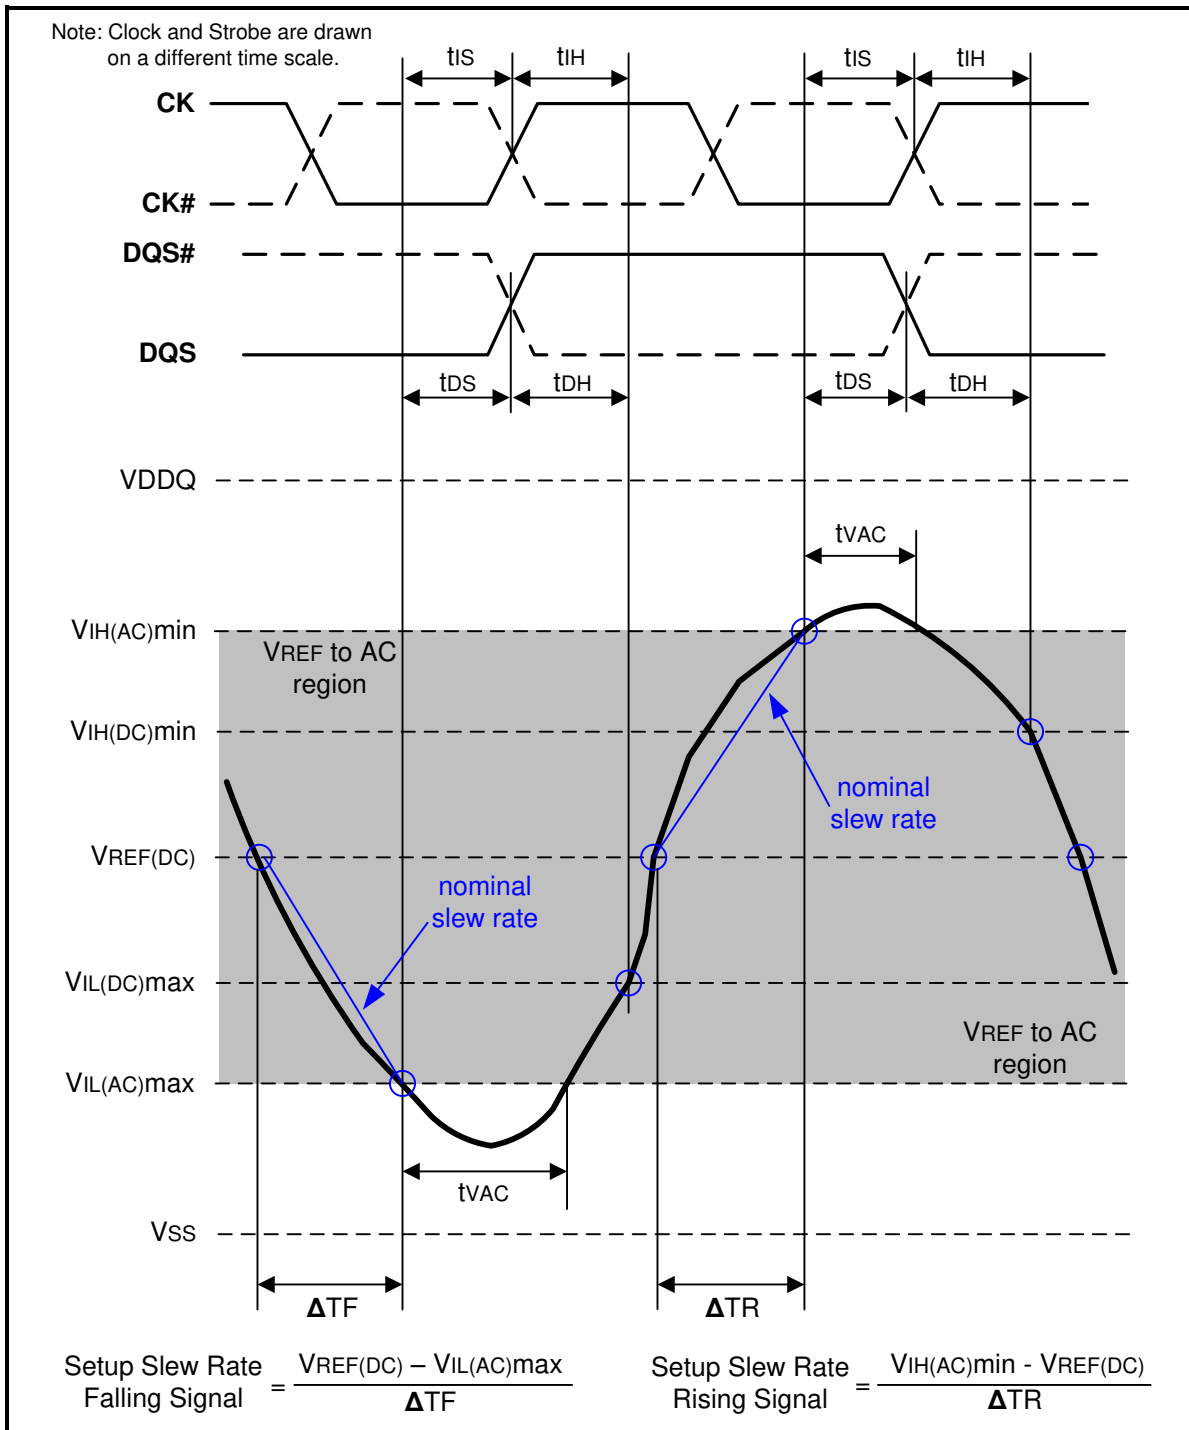
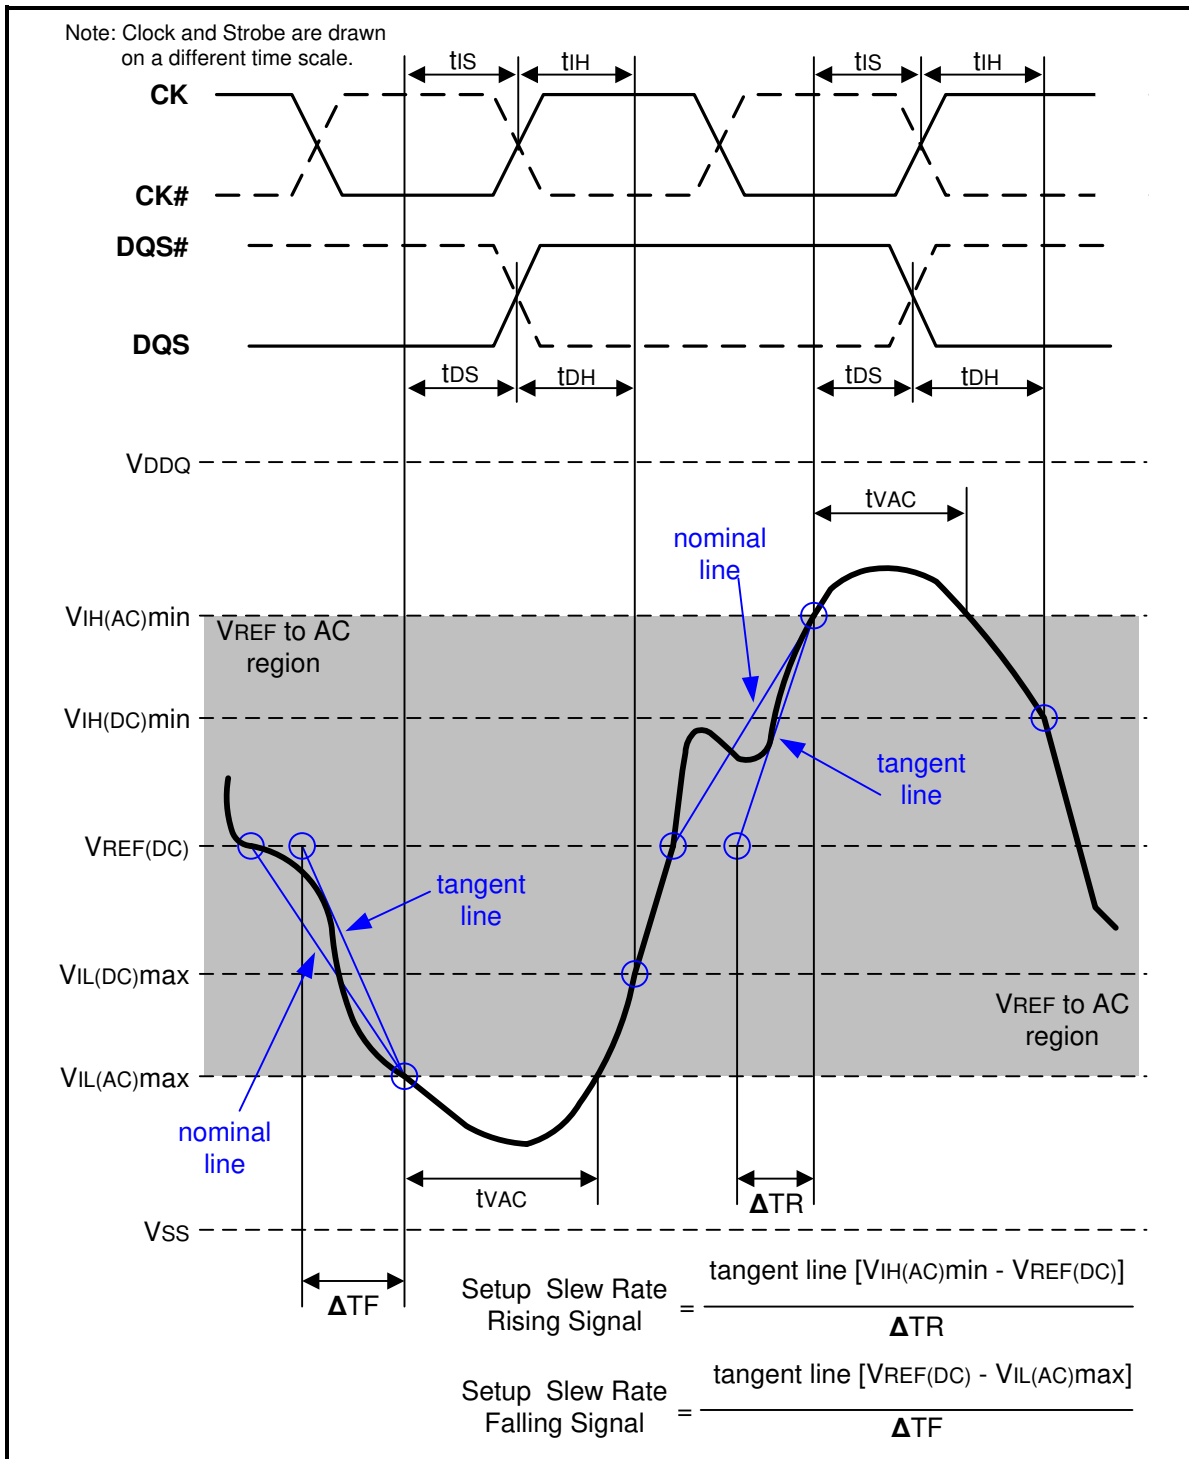

Figure 107 – Illustration of nominal slew rate and tvac for setup time tds (for DQ with respect to strobe) and tis (for ADD/CMD with respect to clock)
Figure 109 – Illustration of tangent line for setup time tds (for DQ with respect to strobe) and tis (for ADD/CMD with respect to clock)
Setup ( $t_{IS}$ ) nominal slew rate for a rising signal is defined as the slew rate between the last crossing of  $V_{REF(DC)}$  and the first crossing of  $V_{IH(AC)min}$ . Setup ( $t_{IS}$ ) nominal slew rate for a falling signal is defined as the slew rate between the last crossing of  $V_{REF(DC)}$  and the first crossing of  $V_{IL(AC)max}$ . If the actual signal is always earlier than the nominal slew rate line between shaded 'VREF(DC) to AC region', use nominal slew rate for derating value (see Figure 107). If the actual signal is later than the nominal slew rate line anywhere between shaded 'VREF(DC) to AC region', the slew rate of a tangent line to the actual signal from the AC level to DC level is used for derating value (see Figure 109).
Setup (tDS) nominal slew rate for a rising signal is defined as the slew rate between the last crossing of VREF(DC) and the first crossing of VIH(AC)min. Setup (tDS) nominal slew rate for a falling signal is defined as the slew rate between the last crossing of VREF(DC) and the first crossing of VIL(AC)max (see Figure 107). If the actual signal is always earlier than the nominal slew rate line between shaded 'VREF(DC) to AC region', use nominal slew rate for derating value. If the actual signal is later than the nominal slew rate line anywhere between shaded 'VREF(DC) to AC region', the slew rate of a tangent line to the actual signal from the AC level to DC level is used for derating value (see Figure 109).